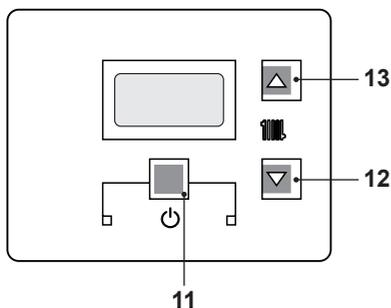
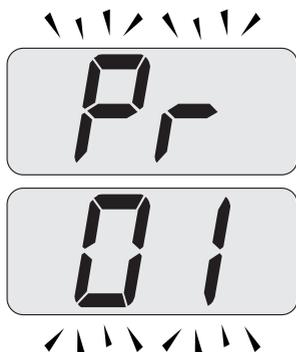
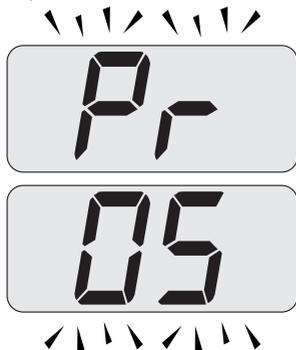

Fig. 8.3
Fig. 8.4
Fig. 8.5
- Enter in "programming mode" by pressing keys 11 - 12 - 13 (Fig. 8.3) for 10 seconds at the same time until the letters **Pr** that alternate with code **01** are displayed on the LCD display, indicating that "parameter 01" (Fig. 8.4) has been activated.
- Scroll the various parameters using keys 12 or 13 until the letters **Pr** that alternate with code **05** are displayed on the LCD display, indicating that "parameter 05" (Fig. 8.5) has been activated.
- Press keys 11 and 13 (Fig. 8.3) at the
- By pressing key 13 three times, it is possible to change the value of parameter 05 from **00**=G20 to **05**=G31, which is ok for LPG gas.
- By pressing key 11 (Fig. 8.3) confirmation of the inserted value is obtained.
- Press keys 11 and 12 (Fig. 8.3) at the same time to exit without changing the value (return to the parameters list Fig. 8.5).
- Press keys 11 - 12 - 13 (Fig. 8.3) at the same time for 10 seconds to exit the "programming mode".